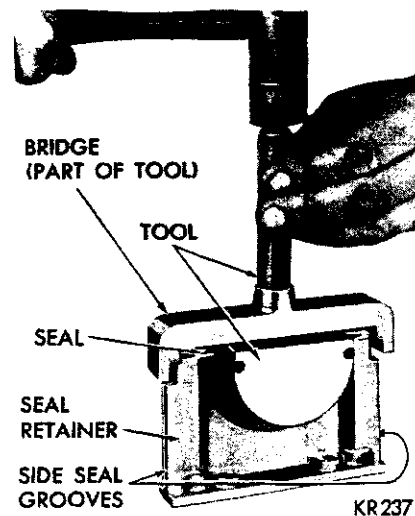

Fig. 34—Installing Rear Main Bearing Lower Oil Seal
(1) Install a new seal in seal retainer so ends protrude (Fig. 34).
(2) Install bridge on tool and tap the seal down